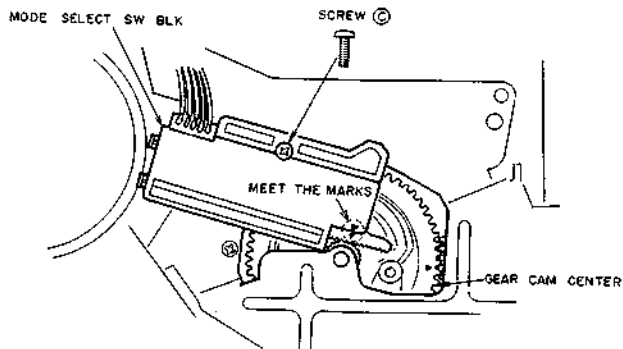

Fig. 4-14
10) Meet the marks of MODE SELECT SW and attach the MODE SELECT SW BLK onto the LOADING MECHA BLK as shown in Fig. 4-14. Tighten the MODE SELECT SW BLK with a screw ③.